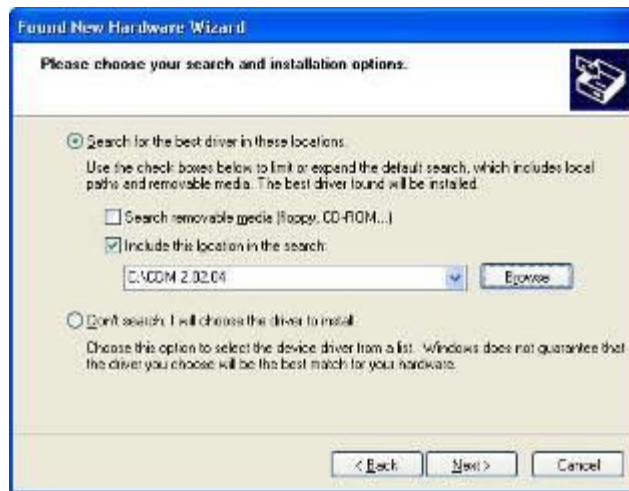

Figure 2.3
2.02.04" in Figure 2.3 below) or browse to it by clicking the browse button. Once the file path has been entered in the box, click next to proceed.